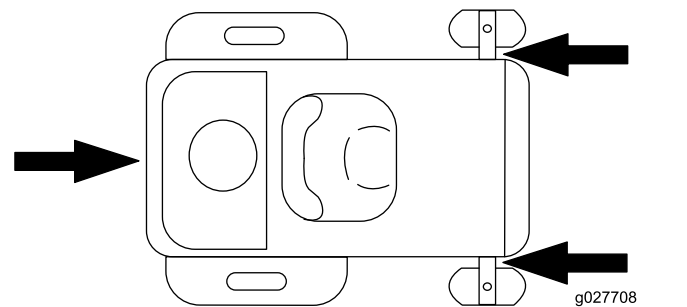

Figure 33
6. Tie down the machine near the front caster wheels and the rear bumper with straps, chains, cable, or ropes (Figure 33). Refer to local regulations for tie-down requirements.